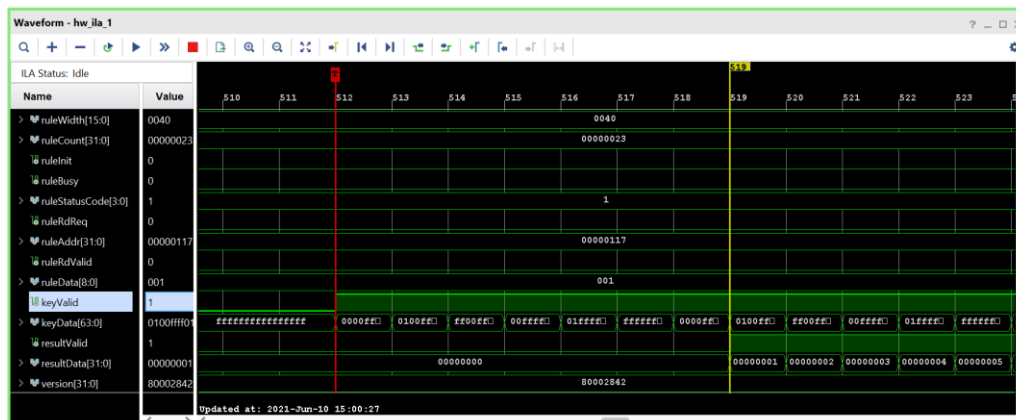

Figure 5-9 Sample of ILA result
- Vivado Hardware Manger will show all signals interface of tCAMIP as shown in Figure 5-9